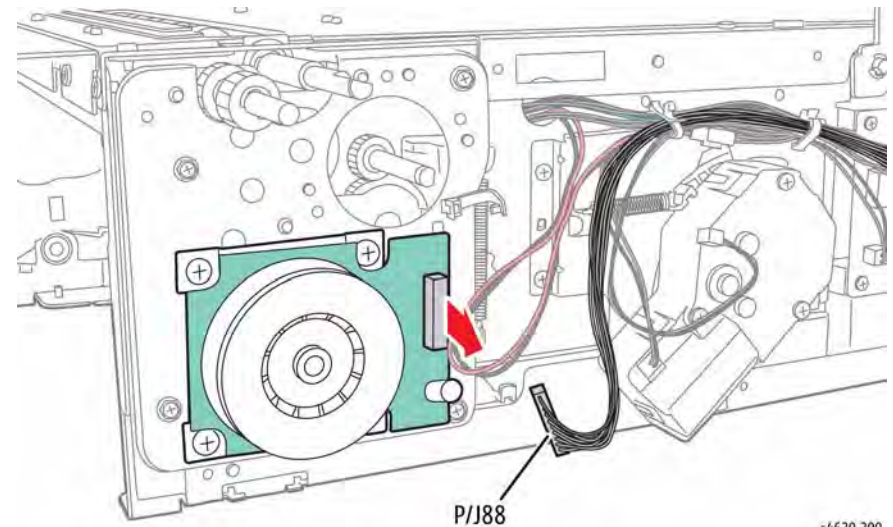

Figure 1 Disconnect the Feed Drive Assembly
9. Disconnect P/J88 from the motor and release the harnesses from the clamp, Figure 1.